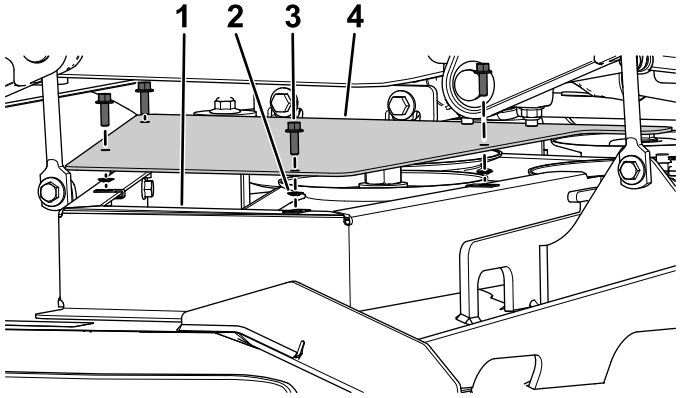

Figure 9
- Secure the left pulley guard to the left pulley-mount guard using 4 flange-head bolts (1/4 x 3/4 inch) and 4 push nuts (Figure 9).